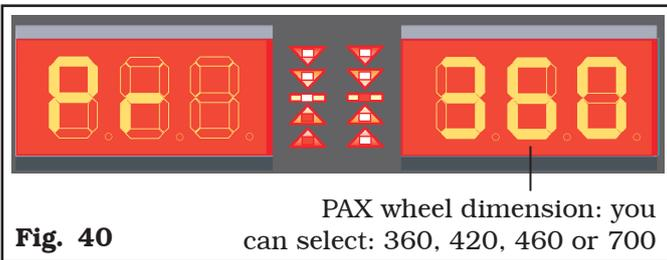

Fig. 40
- Press key  repeatedly to select the type of PAX correction (see Par. 15.4). Then press key . The selection of PAX wheel size will be displayed on the dimensions display screens (see **Fig. 40**).